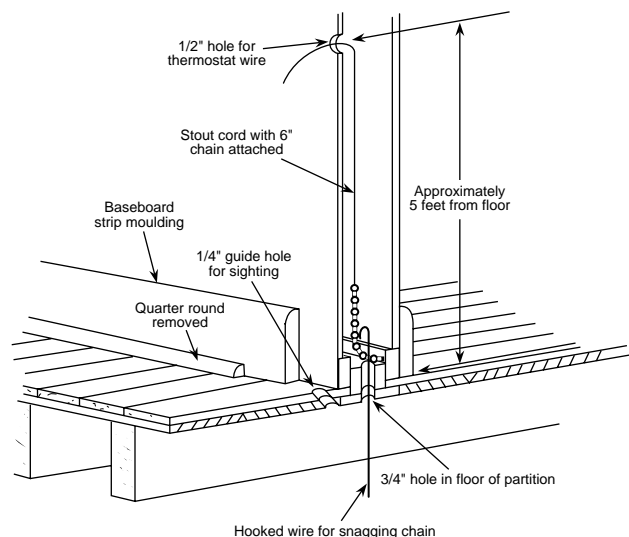

Figure 1. Routing thermostat wires
1. Probe for obstructions in partition before drilling 1/2" hole in wall at selected location. Take up quarter round and drill a small guide hole for sighting (see fig. 1). From basement, drill 3/4" hole in partition floor next to guide hole. In buildings without basements, drill 1/2" hole through ceiling and into partition from above (see fig. 1).